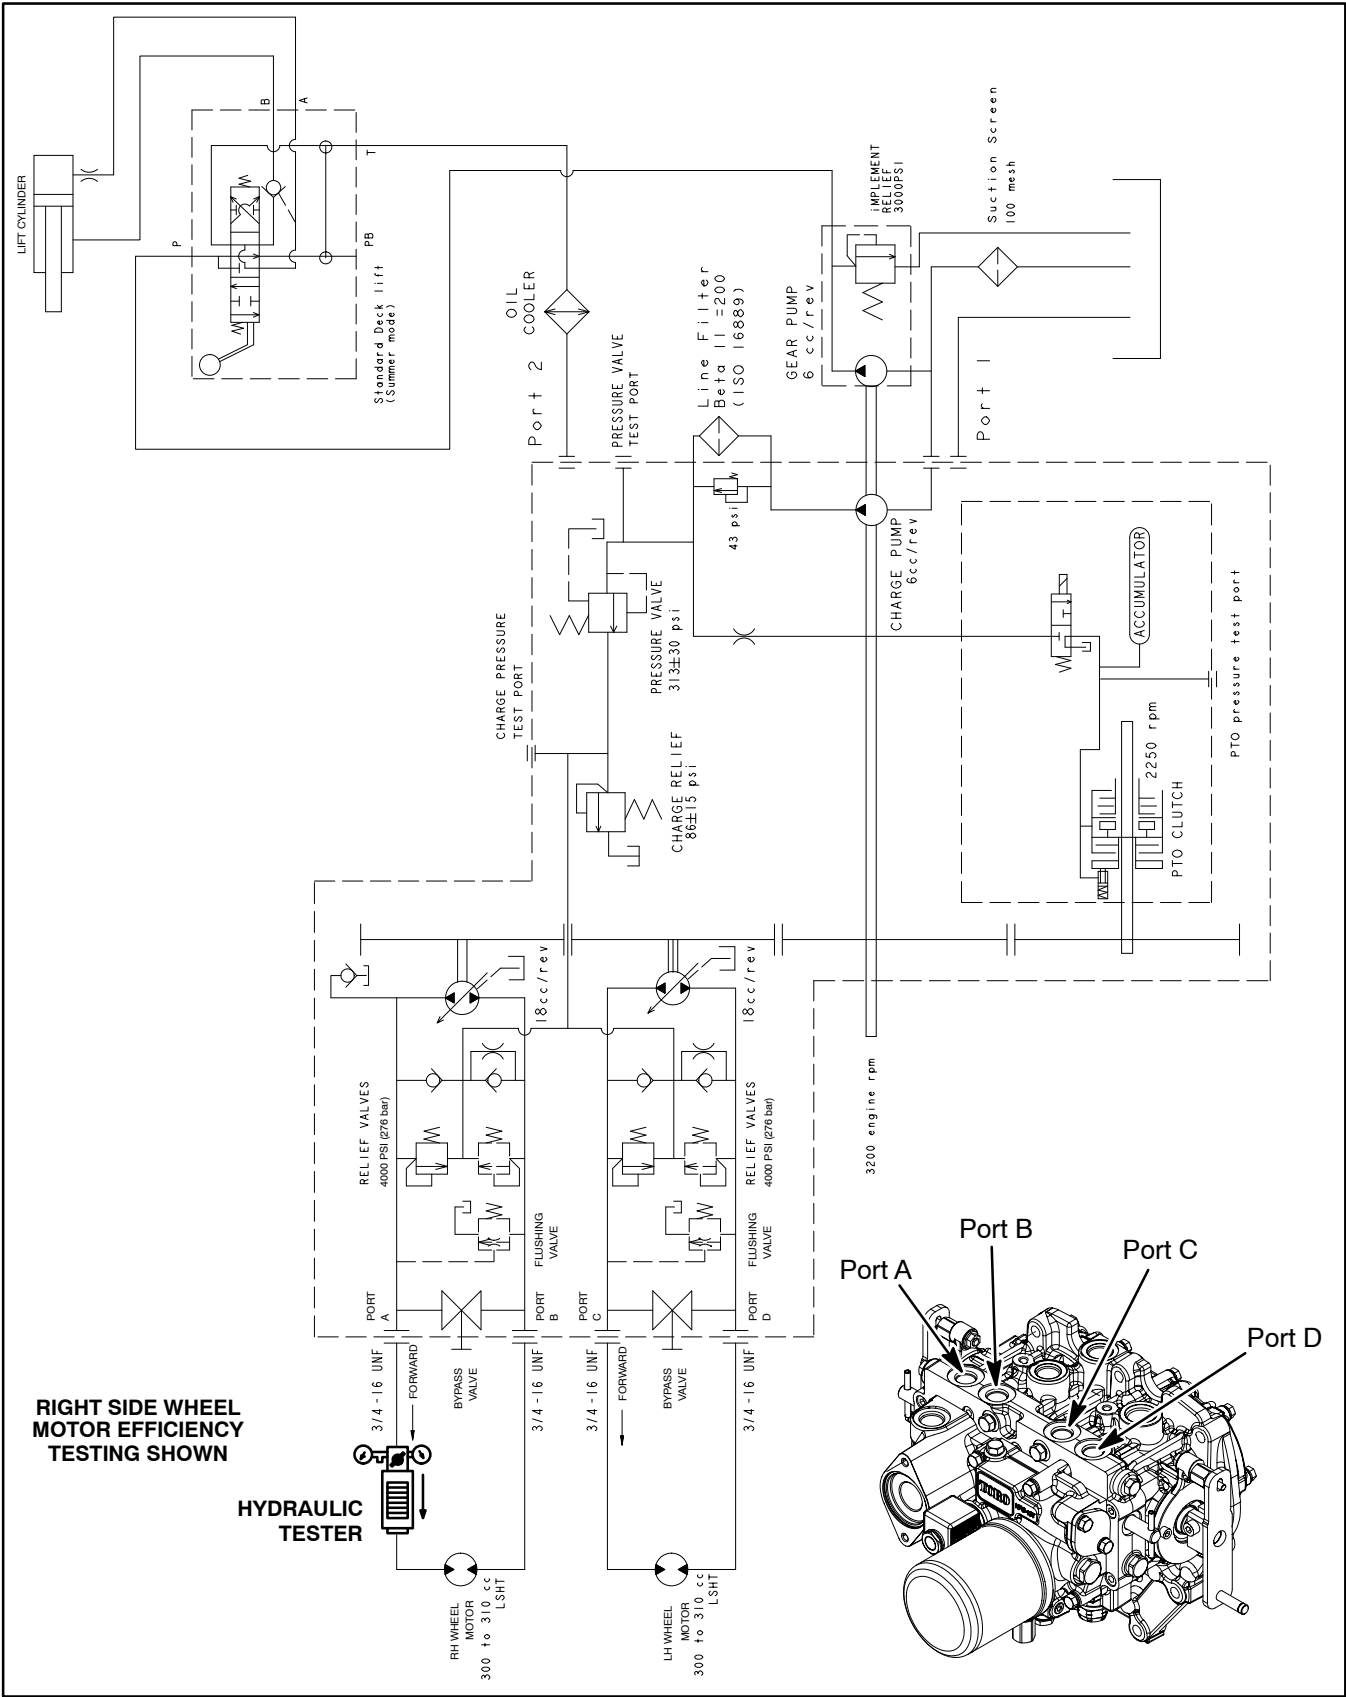

Figure 18
6. Thoroughly clean transmission area surrounding traction circuit hoses on top of transmission (Fig. 18). Determine which wheel motor is to be tested.
7. Disconnect hydraulic hose from transmission pump outlet fitting for wheel motor to be tested (Fig. 18):